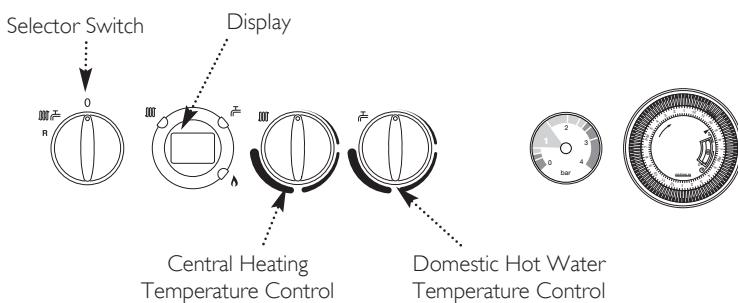

Fig. 93
3. Turn both control knobs fully anticlockwise, then quickly turn the right hand knob 1/4 clockwise twice and back fully anticlockwise (Fig. 93).